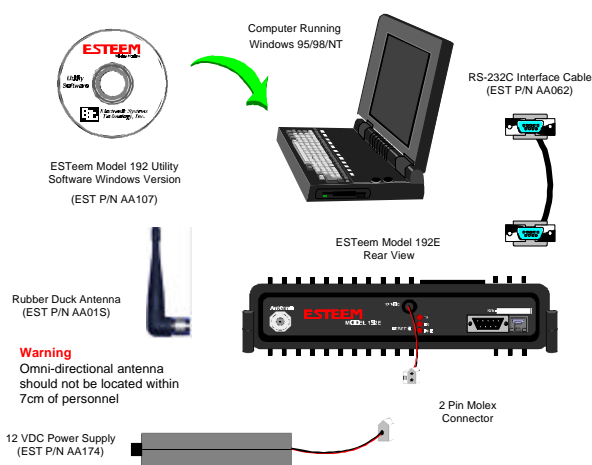

Figure 1: Hardware Layout Diagram
Locate the items contained in Figure 1 for initial configuration of the ESTeem Model 192E. Take a few minutes to inventory your equipment before you proceed. Report any missing or damaged items to Customer Support (509-735-9092) as soon as possible.
**Caution:** Your ESTeem hardware may have antennas other than the AA01S listed in Figure 1, but you must have an antenna connected to the antenna port before applying power to the unit.
1. Place the ESTeem Utility Software CD in your CD-ROM drive (Figure 1).